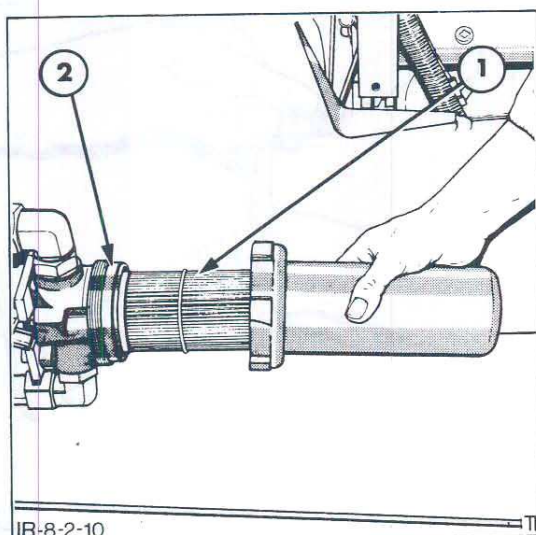

Figure 10
3. Unscrew the filter casing retaining ring and remove the casing. Pull the filter element from the housing, Figure 10.